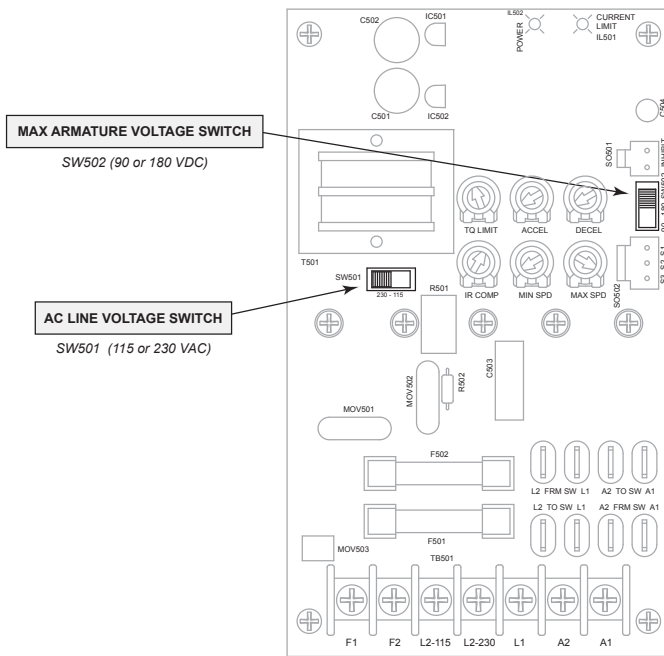

Figure 4. Voltage Switches
- Set voltage switch SW501 to either 115 or 230 to match the AC line voltage (see Figure 4).
- Set voltage switch SW502 to either 90 or 180 to match the maximum motor armature voltage (see Figure 4).
- Set voltage switch SW501 to either 115 or 230 to match the AC line voltage (see Figure 4, page 6).
- Set voltage switch SW502 to either 90 or 180 to match the maximum armature voltage (see Figure 4, page 6).